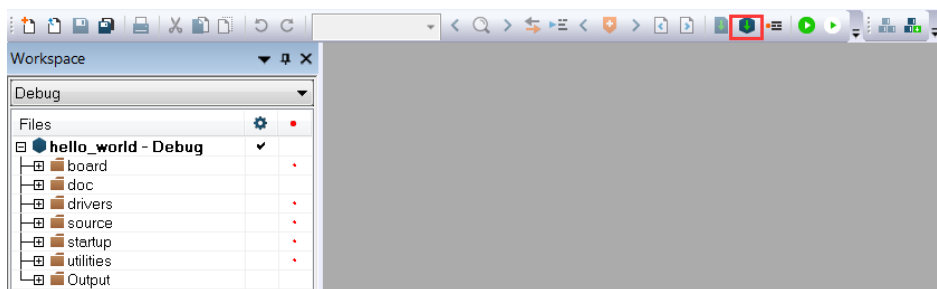

Figure 20. Build the demo application
3. To build the demo application, click **Make**, highlighted in red in Figure 20.